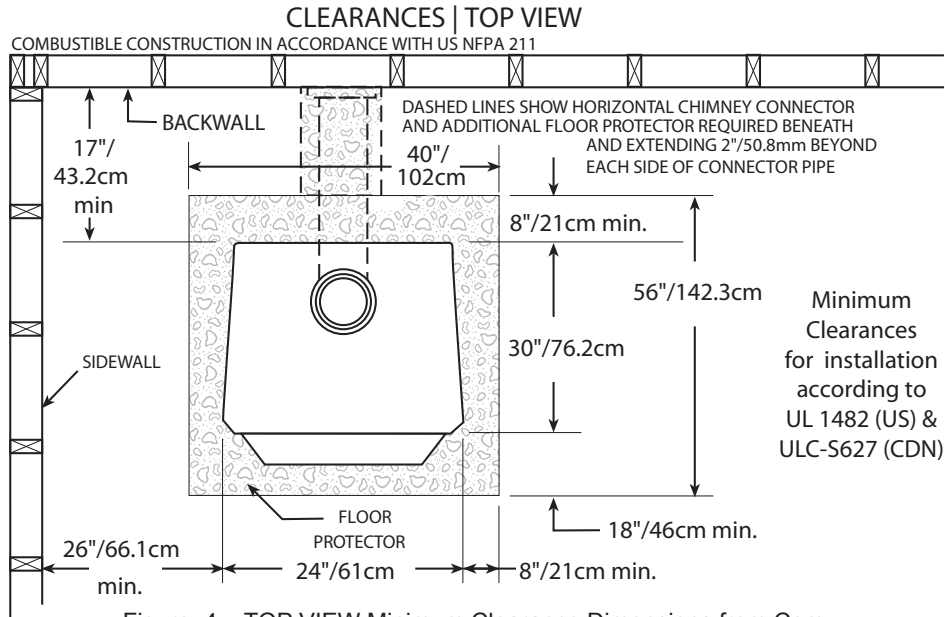

Figure 4 – TOP VIEW Minimum Clearance Dimensions from Combustible Surfaces
The stove must be placed on solid concrete, solid masonry, or when installed on a combustible floor, on an Underwriters Laboratories Listed Type 2 floor protector listed to UL standard UL 1618, such as Hy-C or Imperial Model UL4056BK. Floor protector must be 1/2"/13mm minimum thickness (R value = 1.19, K value = 0.84 see page 23 for calculation formulas) non-combustible material or equivalent. The floor protector must extend at least 18"/46cm beyond the front of the access door, 8"/21cm to the sides, 8"/21cm beyond the rear and must extend under and 2"/50mm beyond either side of the stove pipe if it is elbowed towards a wall. (See figures 4 – 6 and consult local building codes and fire protection ordinances.)
4. After observing the clearances to combustible materials (figures 4 – 6), locate your floor protector accordingly (figure 4) and carefully place the stove in your selected location. Install connector pipe, elbows, and thimble as required, utilizing either a recently cleaned and inspected 6"/152mm lined masonry chimney or a 6"/152mm i.d. manufactured chimney system listed to UL 103 HT (US)/ULC-S629 (CDN).
5. Use round 6"/152mm dia., minimum 24 MSG black or 26 MSG blue steel stove pipe to connect the stove to the chimney. Do not use galvanized stove pipe. NOTE: Mobile home installations require double-wall UL 103 HT high-temp connector pipe. Secure connector pipe to the flue collar with three (3) equally spaced sheet metal screws to firmly hold the pipe sections together. **DO NOT CONNECT THIS STOVE TO ANY AIR DISTRIBUTION OR DUCT SYSTEM.**
6. Recheck clearances from the stove, connector stove pipe, and corner clearances using the illustrations in figures 4 – 6 and your local building codes or fire protection ordinances.